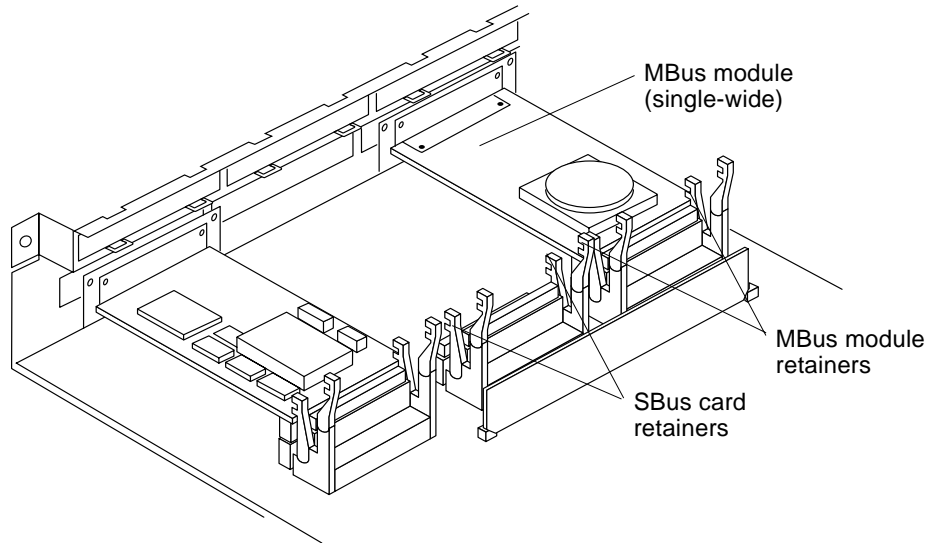

FIGURE 11-5 MBus Module and SBus Card Retainers
5. Lock the retainer arms over the edge of the MBus module (FIGURE 11-5).
3. **Unlock the MBus module retainers and the SBus card retainers closest to the MBus slot (FIGURE 11-5).**